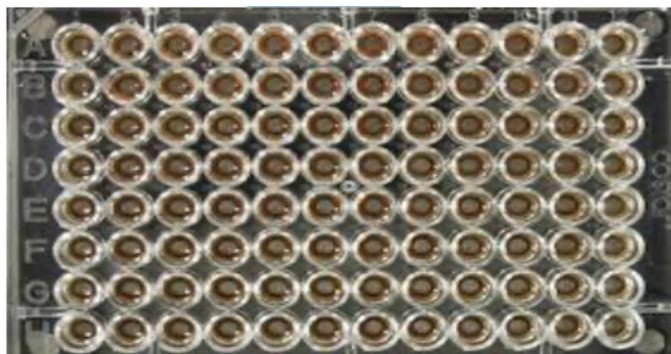

Figure 5: Extraction plate during wash step on magnetic plate.
10. After the 5 minute incubation, remove as much of the 400 μL of the supernatant as possible. Be careful not to disturb or aspirate the beads. See Figure 5.